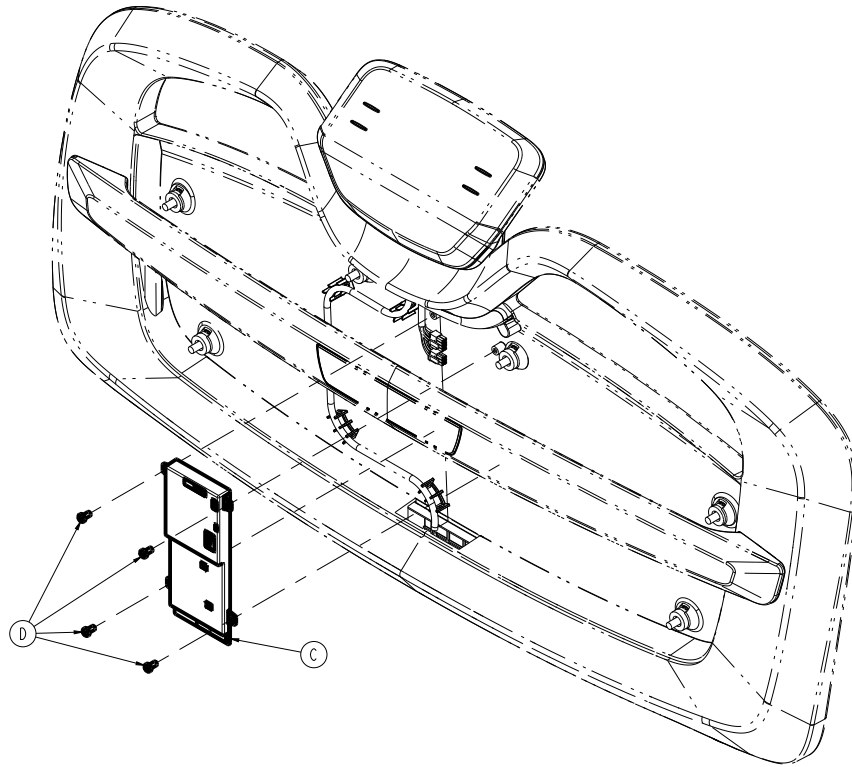

Figure 36 – Replacing the wireless module
7. Using a T20 Torx driver, remove the four screws (D) that secure the wireless module (C) to the footboard (Figure 36). Let the wireless module hang.